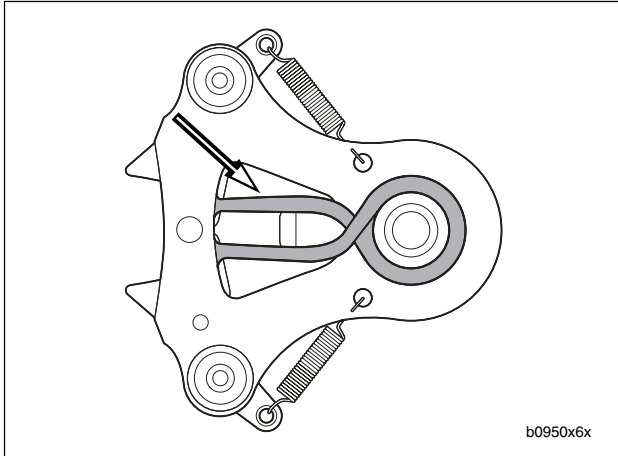

Figure 6-89. Shifter Shaft Return Spring (Correctly Installed)
1. See Figure 6-89. Correctly install shifter return spring onto the reverse side of the shifter shaft assembly before placing shaft in left crankcase half.